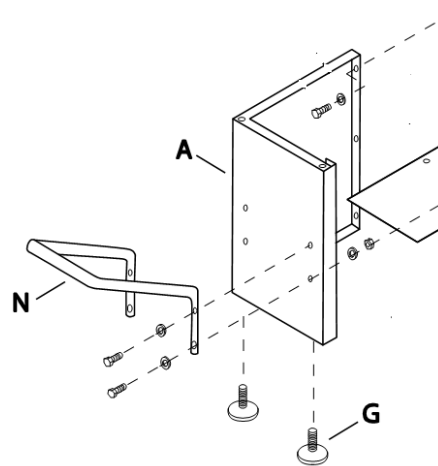

Fig 2
Install the handle (N) to the left side plate (A) with 4 hex cap screws, washers nuts (Fig 2).